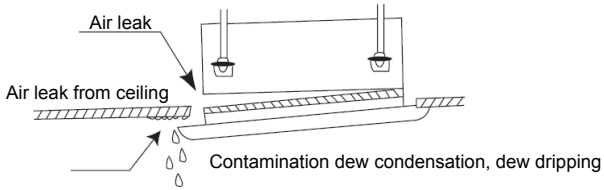

Fig.11.14
(1). Improper screwing of the screws may cause the troubles shown in Fig.11.14.